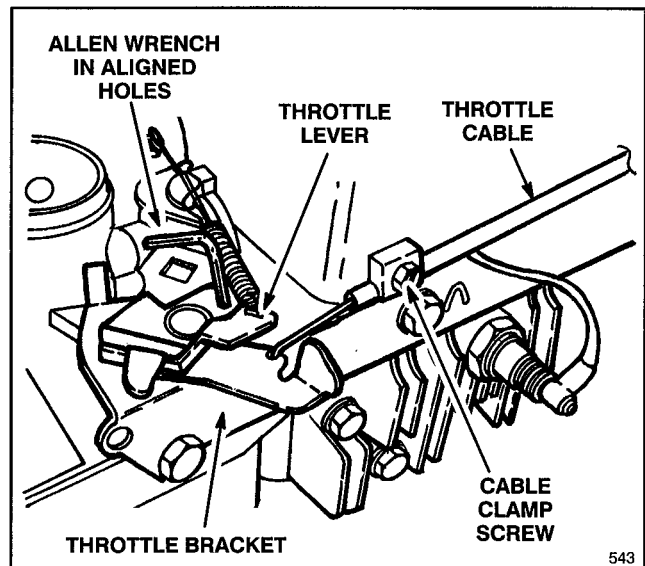

Figure 14
3. Loosen cable clamp screw until throttle cable slides (Fig. 14).
4. Move throttle lever right or left until hole in throttle lever lines up with hole in throttle bracket (Fig. 14). Use an allen wrench, small drill or pin to hold alignment.